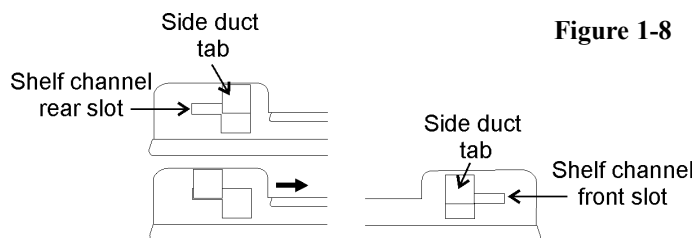

Figure 1-8
3. Install the shelf channels by placing the channel's rear slot over the appropriate rear tab on the shelf support. Pull the shelf channel forward and engage the channel's front slot into the shelf support's appropriate forward tab. Refer to Figure 1-8.